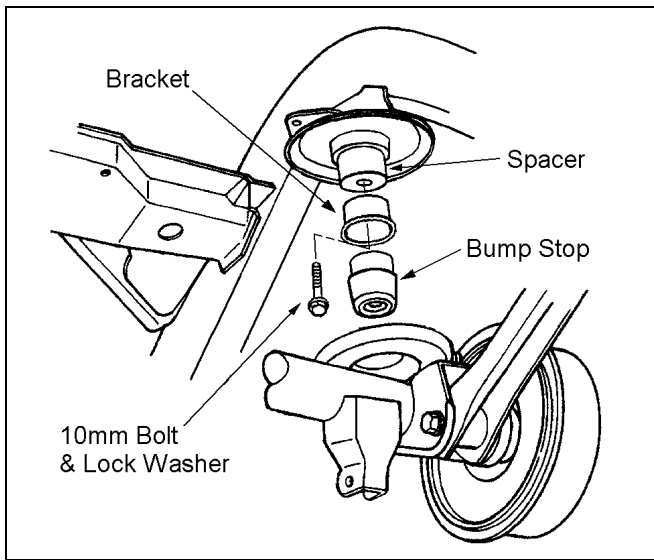

Figure 15
- 2) ☒ Insert Rancho spacer 420027 and reinstall the bracket with the 10mm hardware from kit 860161. Insert the bump stop into the bump stop bracket. See figure 15.